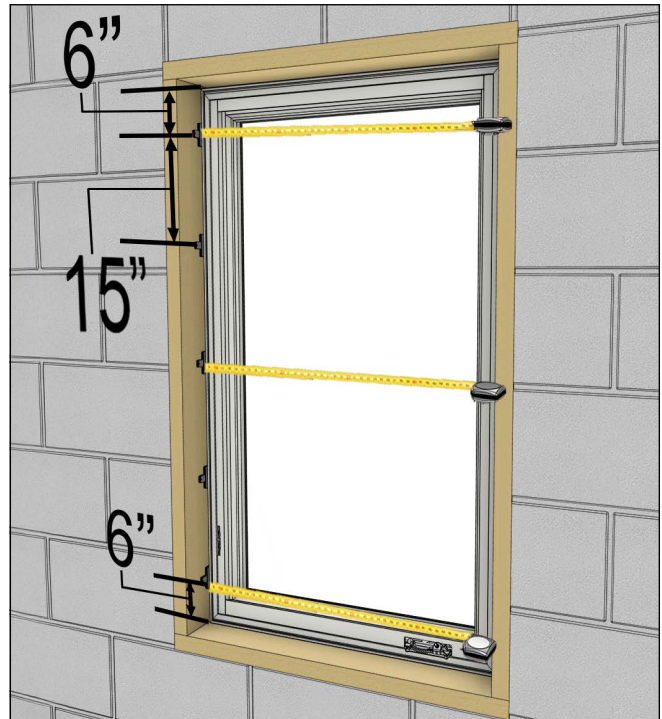

Figure 35
9. Measure at the head jamb, mid-height, and sill to make sure all dimensions are equal within 1/16". If they are not, adjust the shims accordingly. See Figure 35.